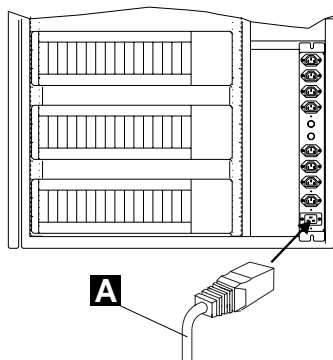

Figure 1-14. Power Cord for Power Strip
18. ____ If it is not already plugged, connect the main power cord **A** coming from the ac outlet distribution box to the customer receptacle (refer to Figure 1-14).